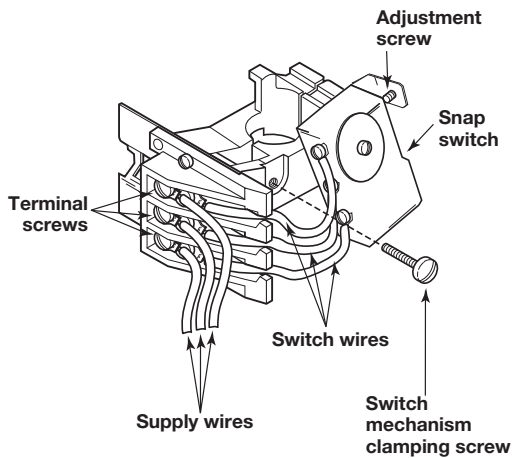

Figure 16
8. Control wires must not touch or interfere with the switch or the mechanism wires. Refer to Figures 16 and 17 on page 19 for wiring with two different terminal block configurations.